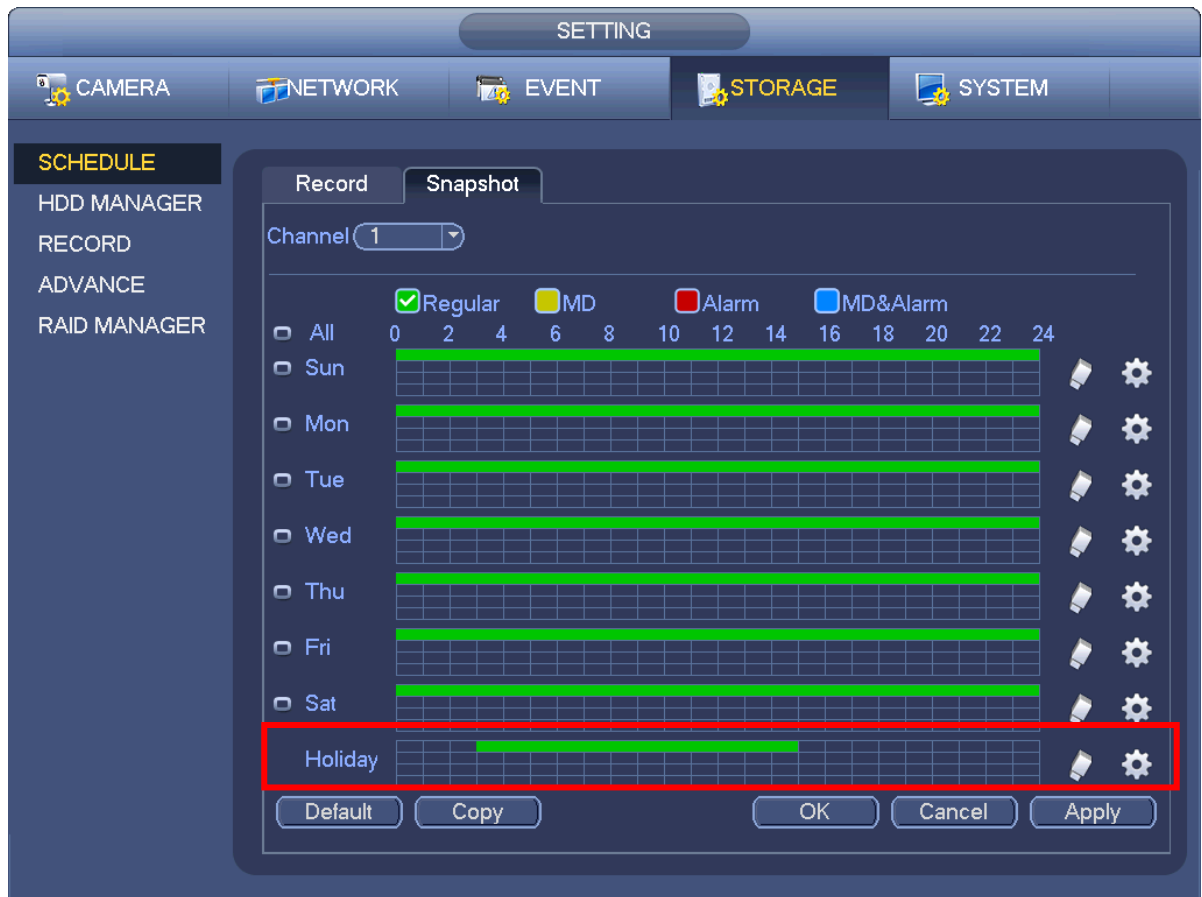

Figure 4-63
- d) From Main menu->setting->Storage->schedule, you can go to schedule interface. See Figure 4-63. Now you can set period and record type of holiday time. Please refer to chapter 4.7.2.1 for detailed setup information.
From Main menu->Setting->Storage->Schedule, you can go to schedule interface. See Figure 4-63. Click Holiday item to set snapshot period.